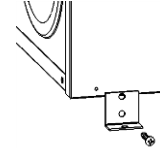

Figure 4
- Secure the front of the unit (inside) with the 2 angles supplied see Fig 4